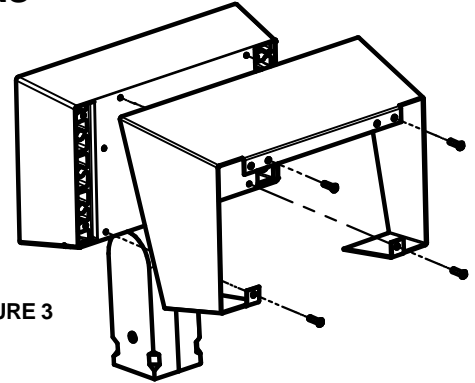

FIGURE 3
**Mounting The Visor (See Fig. 3)**
- Drill four holes using a #24 (0.152" diameter) drill bit, 1/2" depth, at the locations shown (Fig. 3). A small recess is provided on the housing for each drilled hole. No tapping of the holes will be necessary after drilling.